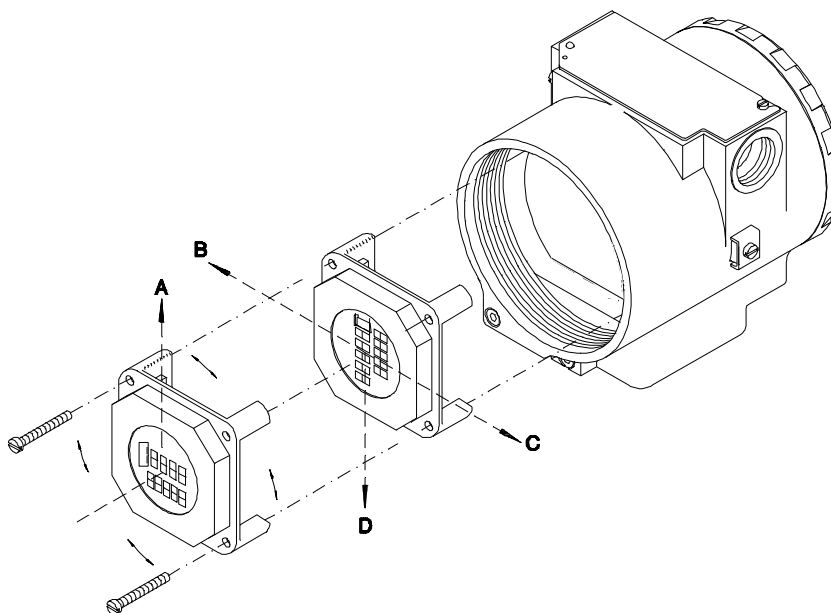

Figure 4.1 - Four Possible Positions of the Display
- Put input board (7) into housing (9).
- Anchor input board with its screws (6).
- Put main board (5) into the housing, ensuring all interconnecting pins are connected.
- Put display (4) into the housing, observing the four mounting positions (See *Figure 4.1 - Four Possible Positions of the Display*) " _ " should point in the direction desired as UP.
- Anchor main board and display with their screws (3).
- Fit the cover (1) and lock it using the locking screw (8).